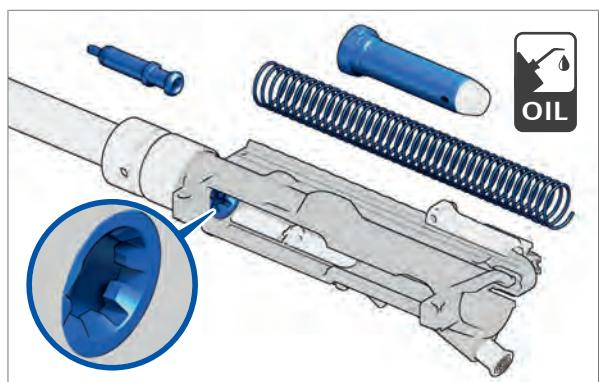

Fig. 115: Lubrication points of functional elements
4. Lubricate lubrication points of functional elements (Fig. 115).